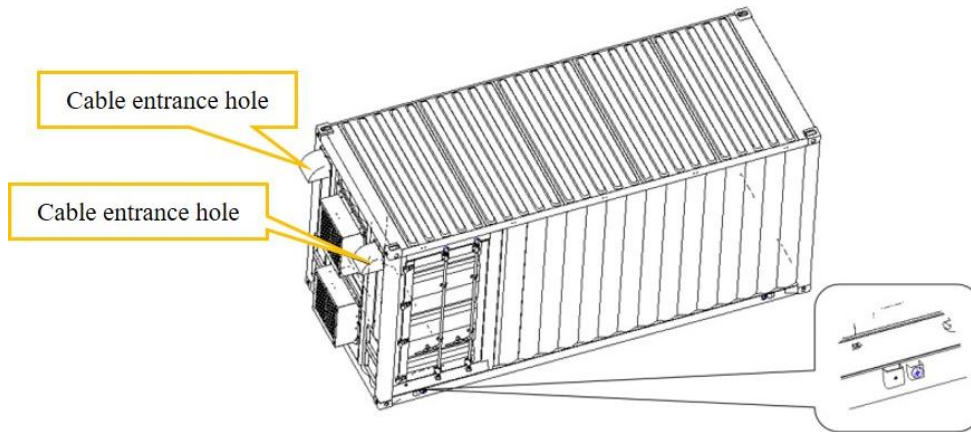

Figure 6.31 Cable entrance holes (under the rain cover).
- a. Connect the cable from the upper two holes on the side of the container exhaust fan. Specific location is shown in Figure 6.31 (Note: Use the rain cover in the accessory for protection). The cable is connected from the top wiring box of the two power distribution cabinets, extends to the corresponding copper block, and is fixed with screws.
grounded. Specific location is shown in Figure 6.31.